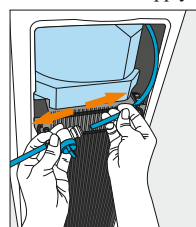

Figure 15
2. Turn off the water supply via the shut off valve, and disconnect the water supply from the cooler (Figure 15)